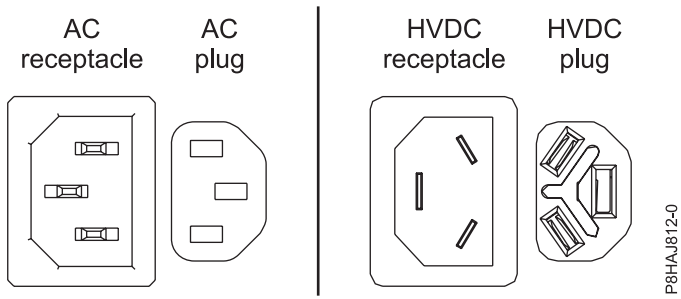
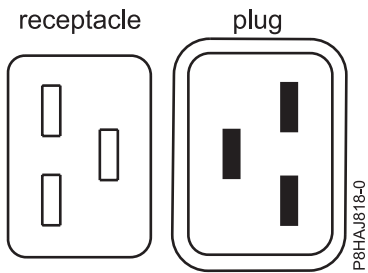
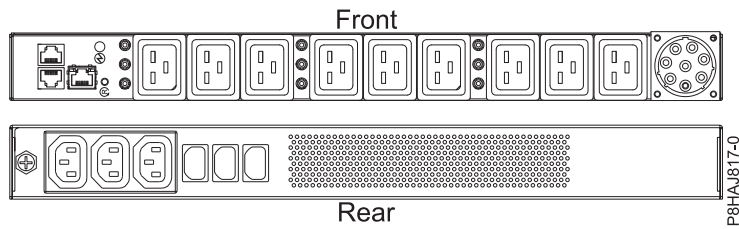

Figure 43. AC and HVDC connectors
Figure 44. Connectors for the 8408-44E system
Figure 45. PDU for the 8408-44E system
Figure 43 on page 89 shows the supported alternate current (AC) and high voltage direct current (HVDC) connectors. Figure 44 on page 89 and Figure 45 on page 89 show the supported connectors and power distribution unit (PDU) for 8408-44E.